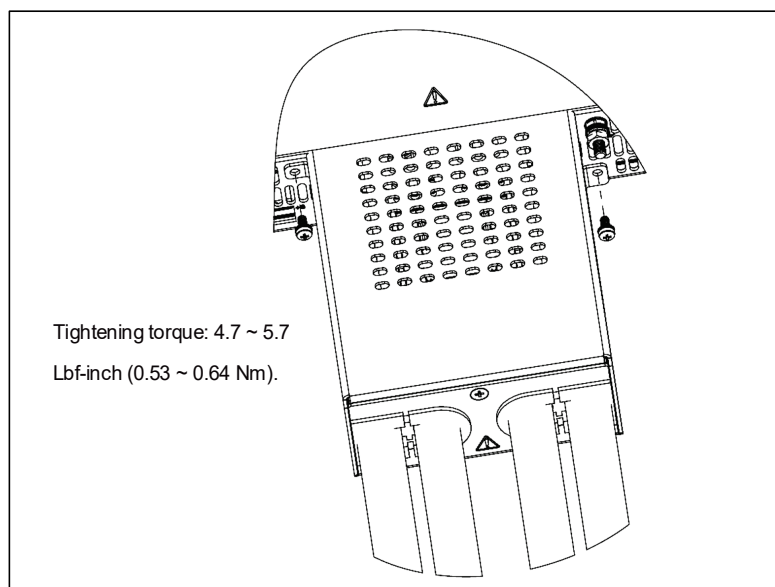

Figure 4-18: Fixing Bus bars protection assembly to the rear panel
7. Assemble the Bus bars protection assembly to the rear panel of the power supply, by using two M3X6 Sems screws from the accessories kit, as shown in Figure 4-18.
5. Assemble the bus bars protection as shown in Figure 4-18.